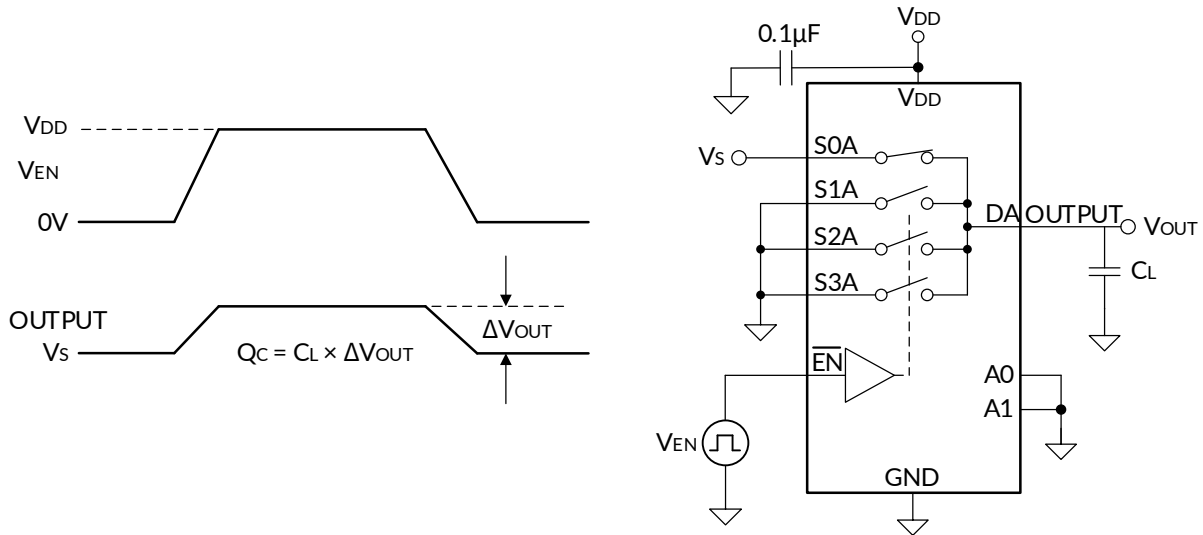

Figure 17. Charge-Injection Measurement Setup
The RMUX1309 device have a transmission-gate topology. Any mismatch in capacitance between the NMOS and PMOS transistors results in a charge injected into the drain or source during the falling or rising edge of the gate signal. The amount of charge injected into the source or drain of the device is known as charge injection, and is denoted by the symbol Q_C . Figure 17 shows the setup used to measure charge injection from source (S_x) to drain (D).